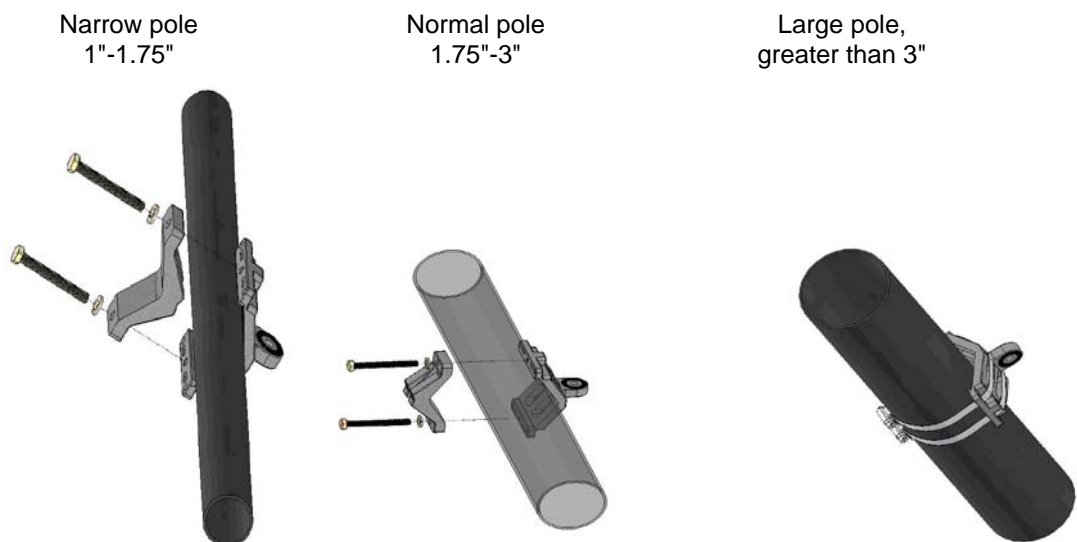

Figure 3: Pole Bracket Assembly
- Installation of the mounting brackets to a streetlight arm or a pole differs according to the width of the pole, as illustrated in Figure 3.